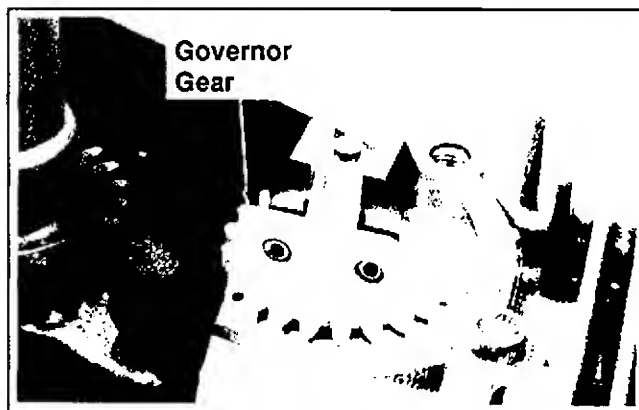

Figure 9-27. Removing Governor Gear.
1. Remove the governor gear and plain washer from the governor shaft. See Figure 9-27.